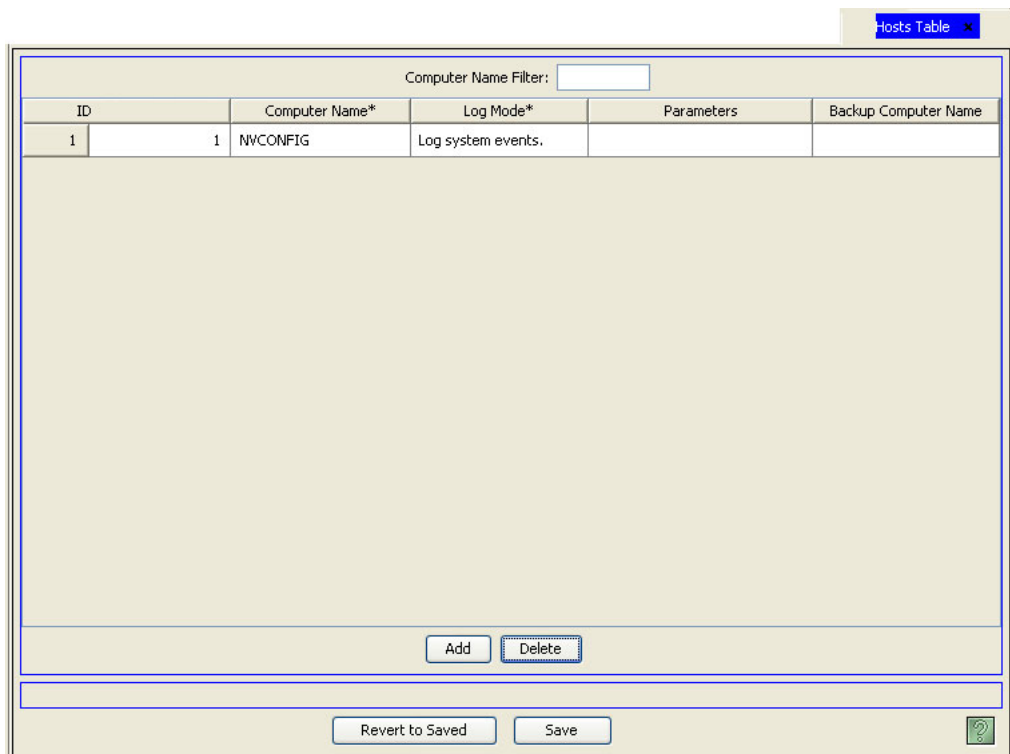

Figure 5-5. Hosts Table
- 2 From the Navigation area, select the 'Views' pane and then 'Hosts'. The 'Hosts' table appears, as shown in Figure 5-5.